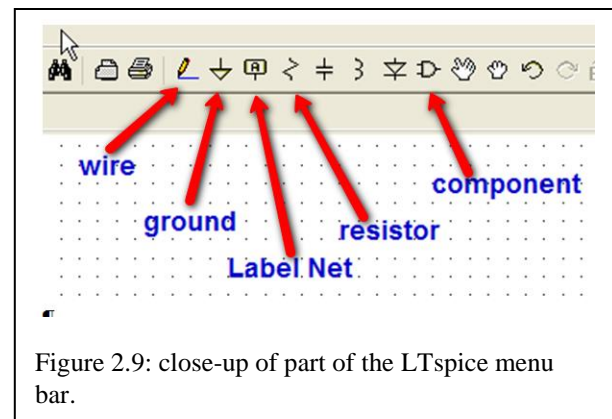

Figure 2.9: close-up of part of the LTspice menu bar.
- Figure 2.9 shows some of the important symbols on the LTspice menu bar.